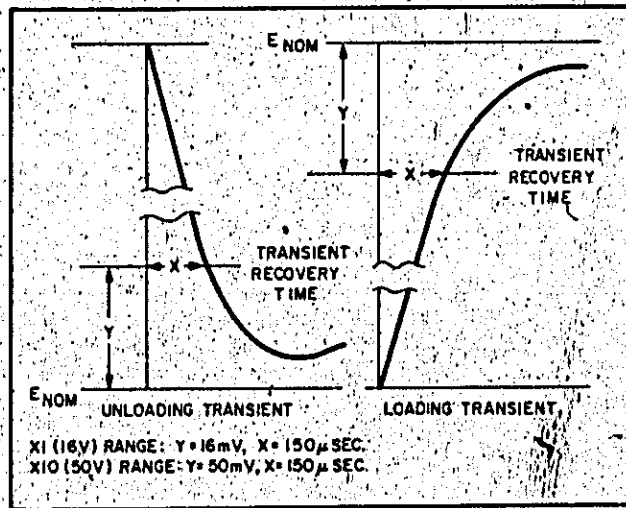

Figure 5-6. Transient Recovery Time, Waveforms
h. Starting from the major graticule division representative of time zero, count to the right 150 μ sec and vertically 50mV. Recovery should be within these tolerances as illustrated in Figure 5-6.
j. The transient recovery should be within 16mV at 150 μ sec as illustrated in Figure 5-6.